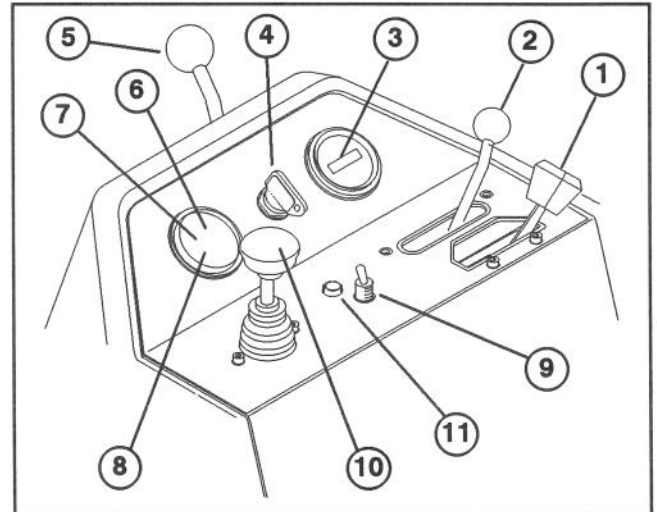

Figure 17
Choke Control (Fig. 17) – When starting a cold engine, move choke control forward. After engine starts regulate choke to keep engine running smoothly. As soon as possible, move choke rearward.
Functional Control Lever (Fig.17) – Provides two (2) traction selections, plus a “NEUTRAL” position. It is permissible to shift from mow to transport or transport to mow (not to neutral) while the Greensmaster 3200 is in motion. No damage will result.
Hour Meter (Fig.17) – Indicates the total hours of machine operation. The hour meter starts to function whenever the key switch is rotated to “ON”.
Ignition Switch (Fig. 17) – Insert key into switch, turn clockwise as far as possible to “START” position to start engine. Release key as soon as engine starts; key will move to “ON” position. Turn key counter–clockwise to “OFF” position to stop engine.
Steering Arm Locking Lever (Fig.17) – Rotate lever rearward to loosen adjustment, raise or lower steering arm for operator comfort, then, rotate lever forward to tighten adjustment.
Water Temperature Light (Fig. 17) — Light glows and engine automatically shuts–down when engine coolant temperature gets too high.
High Temperature Override Button (Fig. 17) —If engine kills due to an over heat condition, press over ride button in and hold until machine can be moved to a safe location and allowed to cool down.
Two Speed Transport Switch (Fig. 17) – When switch is moved to forward position, engine will run at maximum engine speed (2800 rpm). When moved to rear position, engine will run at a slower engine speed (2300 rpm) for quieter operation.
Battery Warning Light (Fig. 17) – Light glows if battery charge is low.
Oil Pressure Light (Fig. 17) — Light glows if engine oil pressure drops below a safe level.
Raise / Lower – Mow Control (Fig 17) – Moving control forward, with functional control lever in MOW, lowers the cutting units and starts the reels. Pull back on control to stop reels and raise cutting units. During operation reels can be stopped by pulling back on control momentarily and releasing. Restart reels by moving control forward.